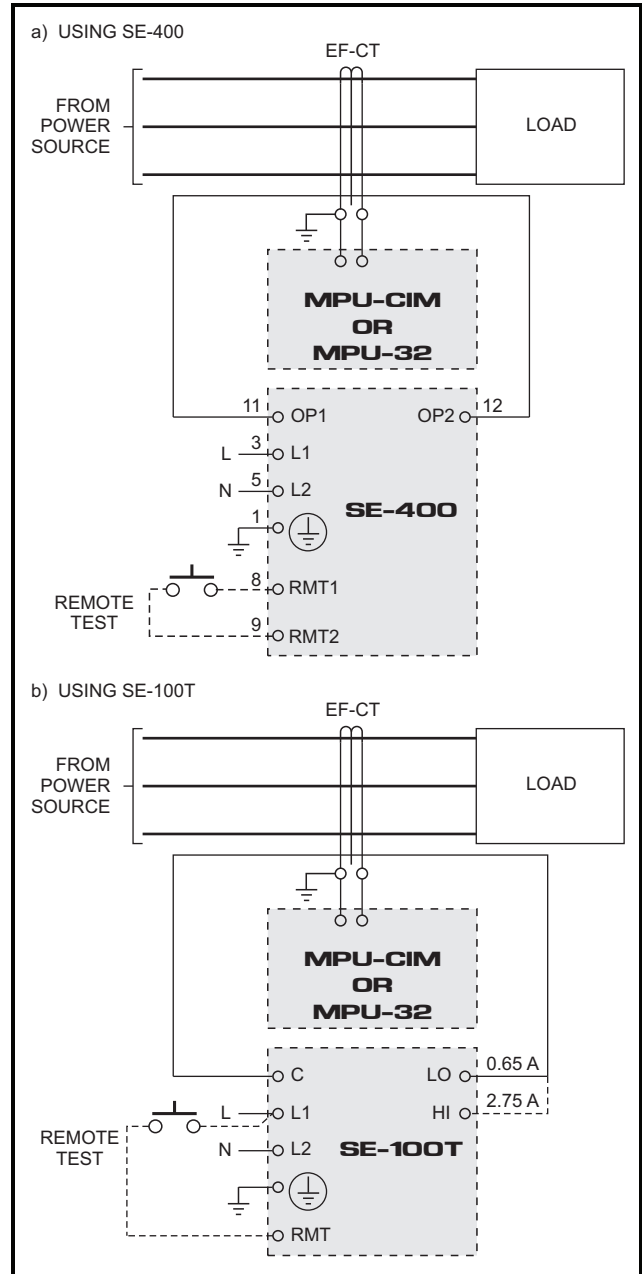

FIGURE G.1 Ground-Fault-Test Circuits
- d) Verify proper reaction of the circuit-interrupting device in response to a simulated or controlled ground-fault current. To simulate ground-fault current, use CT-primary current injection. Fig. G.1(a) shows a test circuit using a Littelfuse Startco SE-400 Ground-Fault-Relay Test Unit. The SE-400 has a programmable output of 0.5 to 9.9 A for a duration of 0.1 to 9.9 seconds. Set the test current to 15% greater than the MPU-32 trip setting. Fig. G.1(b) shows a test circuit using a Littelfuse Startco SE-100T Ground-Fault-Relay Tester. The SE-100T provides a test current of 0.65 or 2.75 A for testing 0.5- and 2.0-A trip levels. Inject the test current through the current-transformer window for at least 2.5 seconds. Verify that the circuit under test has reacted properly. Correct any problems and re-test until the proper reaction is verified.